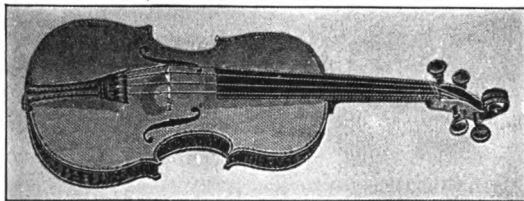

FIG. 141.—VIOLIN
**175. Violin.** This instrument (Fig. 141) has but four strings. By a process called *fingering* or *stopping*, one string is made to do for many notes. This is attained by pressing on